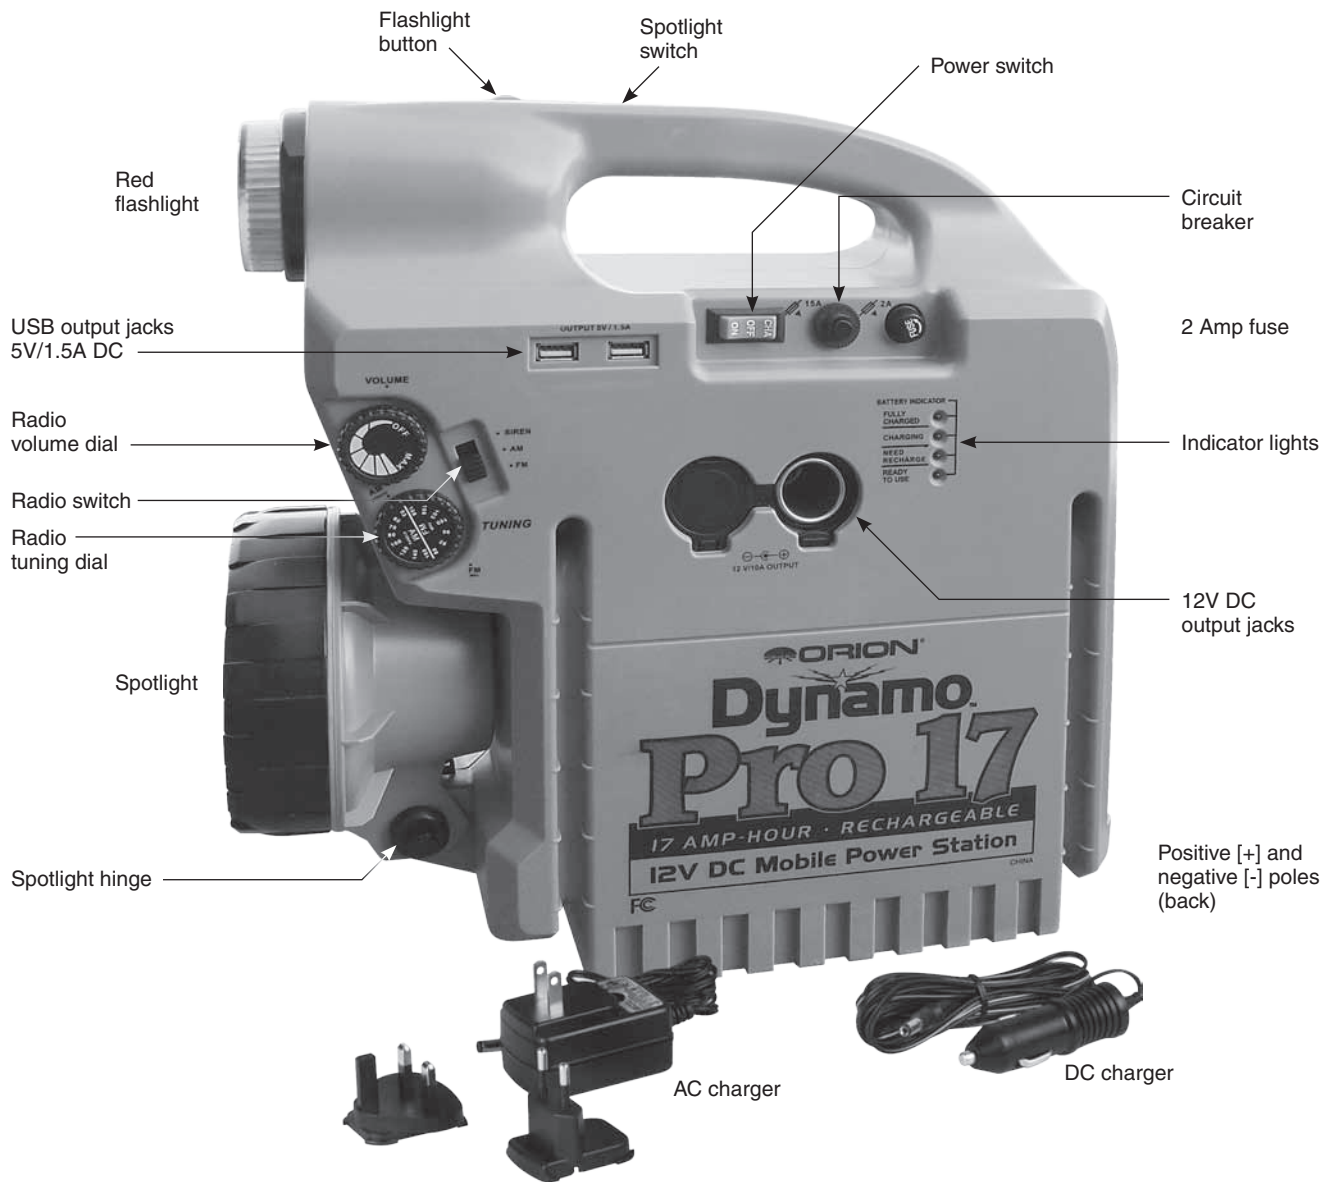

Figure 1: The Dynamo Pro 17 12V DC Power Station.
Switch the power switch (Figure 1) to the “ON” position and the green “READY TO USE” power indicator LED should shine. Slide open the door to one of the 12V/10A output jacks and insert the device’s 12V power plug.
To operate the flashlight, the Dynamo Pro 17 power switch must be in the “ON” position. Press the flashlight button (Figure 1) once to produce a constant light. Pressing the button a second time will cause the flashlight to flash on and off steadily. Pressing the button a third time will turn the flashlight off.
1) to the “ON” position. The spotlight can be rotated about its hinge (Figure 1) for easy positioning of its beam. Simply take hold of the spotlight and move it to the position you want.
To use the radio, the power switch must be in the “ON” position. The radio switch (Figure 1) allows you to select between FM radio, AM radio, or the internal siren. The internal siren is for emergency situations.
Press the power switch into the “CHA”, or charge position. Then plug the small end of the AC adapter into the charge input jack (Figure 1) located at the rear of the Dynamo Pro 17, and plug the other end of the adapter into a 110V AC wall outlet. The red “CHARGING” LED light should come on indicating that the battery is charging.
Press the power switch into the "CHA" position. Plug the small end of the DC adapter into the charge input jack (Figure 1) located at the rear of the Dynamo Pro 17. Make certain the car engine is running, then plug the other end of the DC adapter into the cigarette lighter in the car. The red "CHARGING" LED light will come on indicating the battery is charging.
If the power indicator LED light does not come on when you turn the power switch, the circuit breaker (Figure 1) will need to be reset. Turn the power switch to the "OFF" position and press the circuit breaker button to reset it. Keep in mind that if you are drawing more than 10 Amps through the 12V/10A adapters you will always cause the circuit breaker to break.
If the fuse for the USB power jacks should blow, it can be replaced with a new 2 Amp (5mm x 20mm long, 250 VAC, fast acting) fuse. Turn the power switch to the "OFF" position, then turn the fuse securing knob (Figure 1) in the indicated direction to free the old fuse. Replace it with the new fuse. Replace the fuse securing knob.